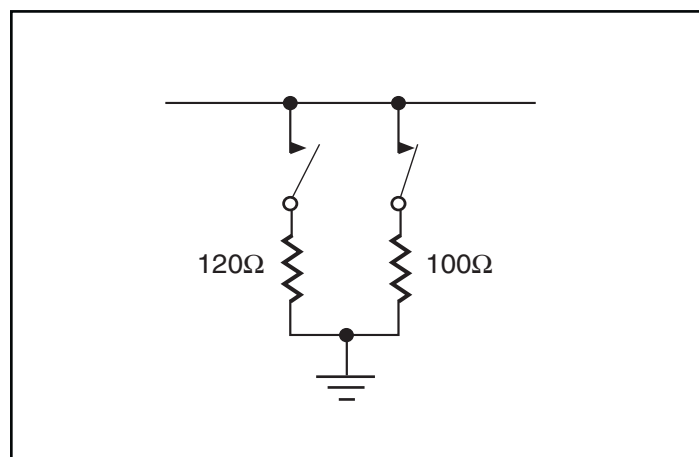

**Figure 2. Hot Swap Precharge Voltage Selection**
1. See test circuit and waveforms (Figure 2).